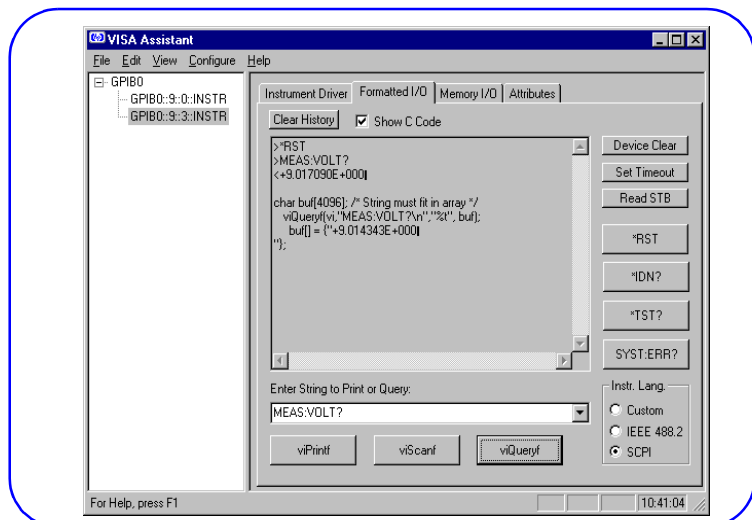

Figure 33. Example: Typical VISA Assistant Display
- The result should be similar to that in Figure 33.